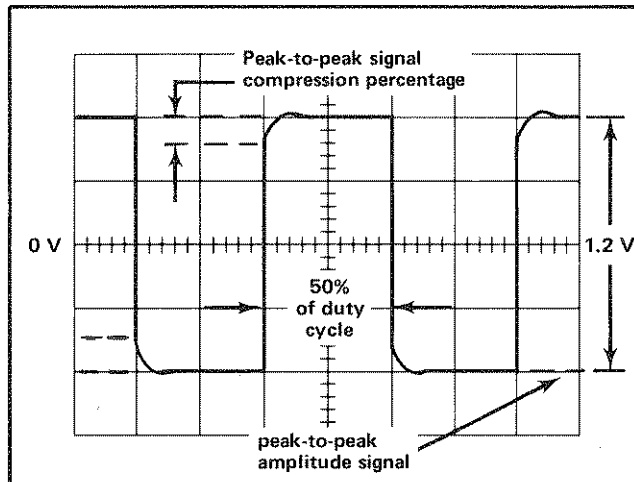

Fig. 5-6. Illustration showing how to measure signal compression.
e. CHECK—Percentage of compression for 1.2 V peak-to-peak signal; measured as shown in Fig. 5-6, the percentage must not exceed 4%.